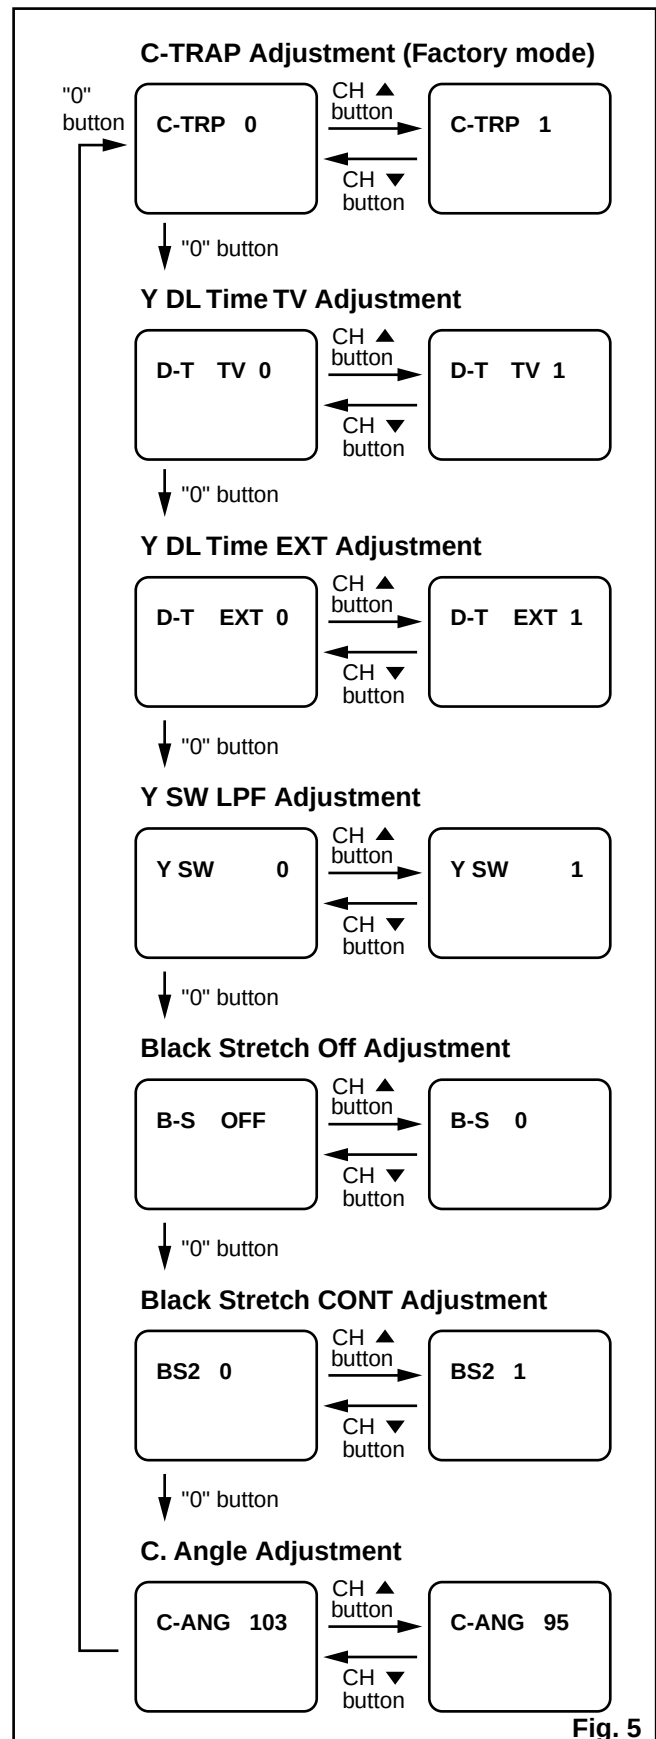

Fig. 5
3. Press "0" button on the remote control unit and select C-TRAP mode. (Fig. 5)